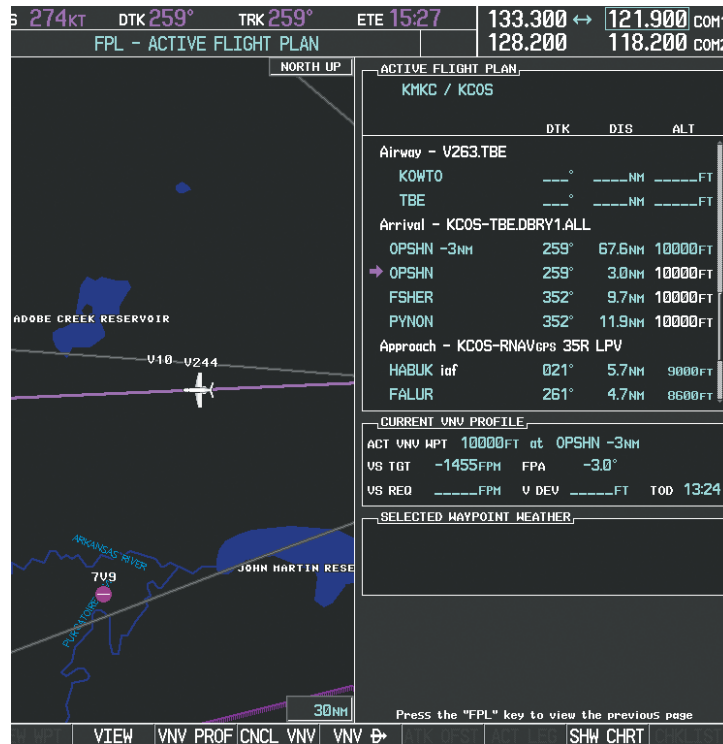

Figure 5-136 Loaded Approach
- i) With 'LOAD?' highlighted, again press the ENT Key. The selected approach is added to the flight plan as seen in Figure 5-136.